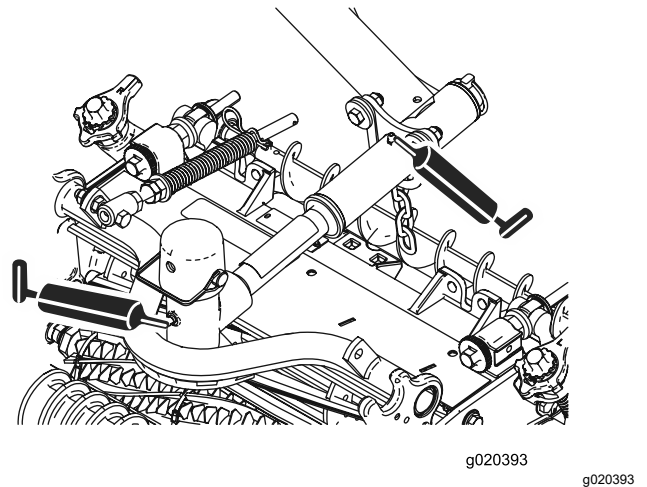

Figure 44
- Cutting unit pivots (2 each); refer to Figure 44.